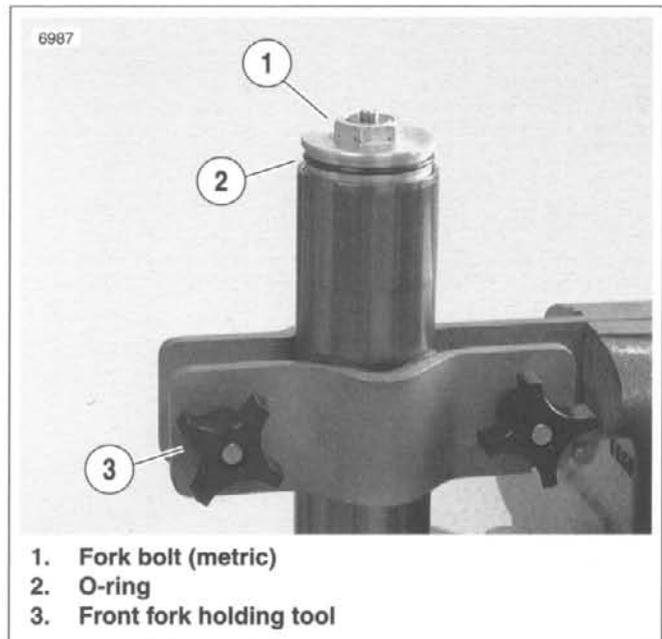

Figure 2-94. Fork Bolt
1. See Figure 2-94. Loosen the fork bolt (1) (metric) from the outer tube and slightly compress the fork leg. Remove the fork bolt with attached O-ring (2).
18. Set the spring seat stopper (3) between the spring collar (2) and the locknut. Remove the FRONT FORK SPRING COMPRESSOR.
19. See Figure 2-94. Apply oil to a **new** O-ring and install it into position on the fork bolt. Install fork bolt. Tighten to 22-29 ft-lbs (29.8-39.3 Nm).